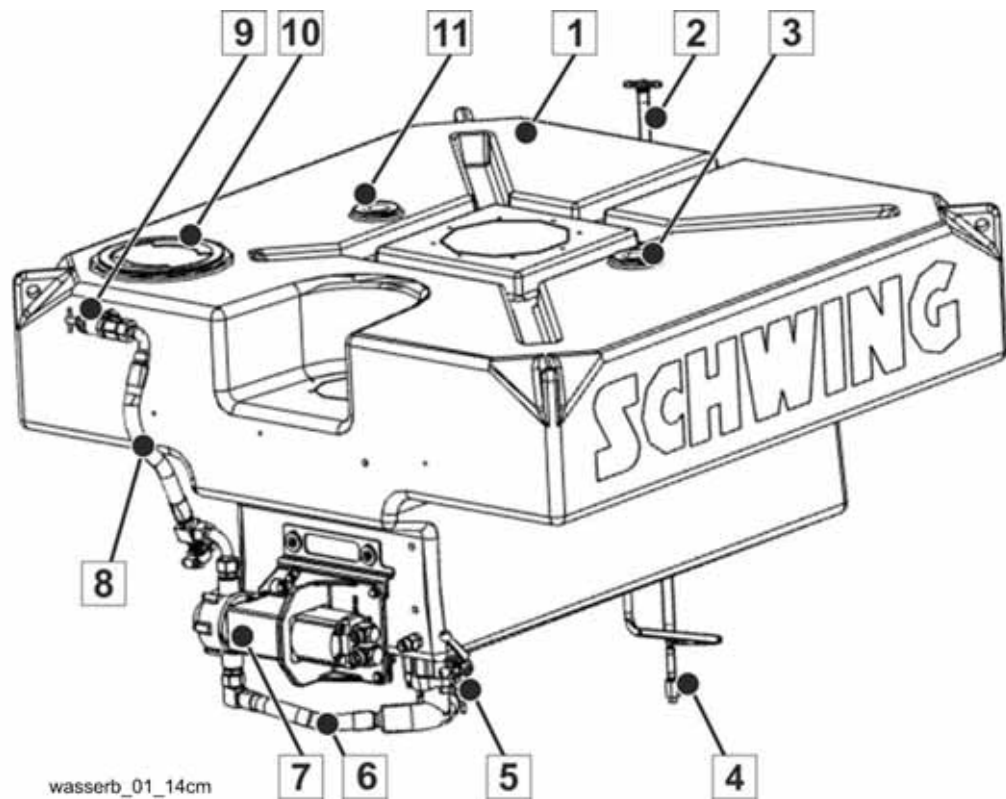

Fig. 185 The individual components
Do not switch on the water pump while the ball valve is shut (5) (**Fig. 185**).
Caption for (Fig. 185)
The SCHWING water system is powered by a hydraulic water pump (**Fig. 185**) (7). The water pump shown here is standard.